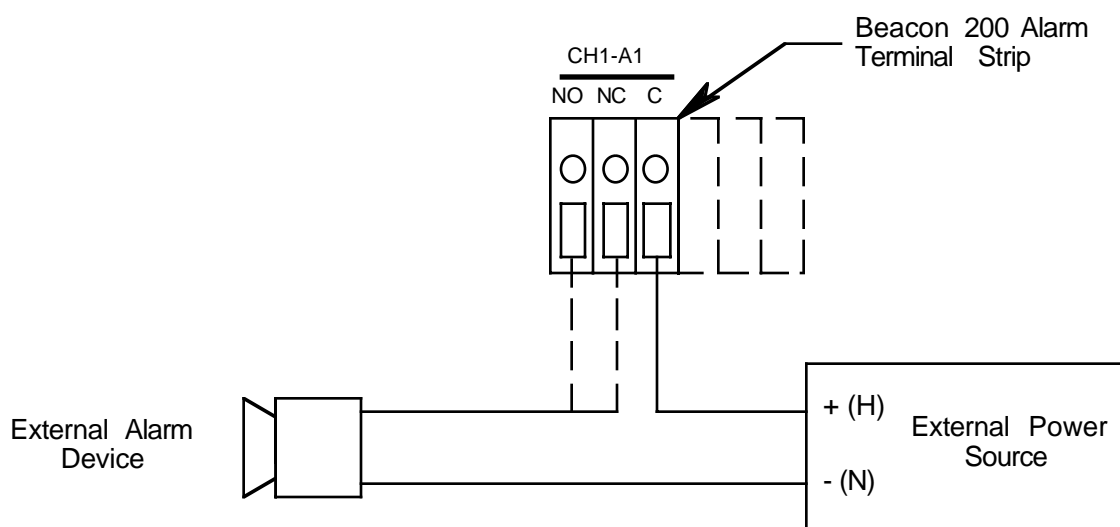

Figure 8. Typical External Alarm Wiring
5. Connect the leads from the external alarm device and power to the alarm terminals as shown in Figure 8.